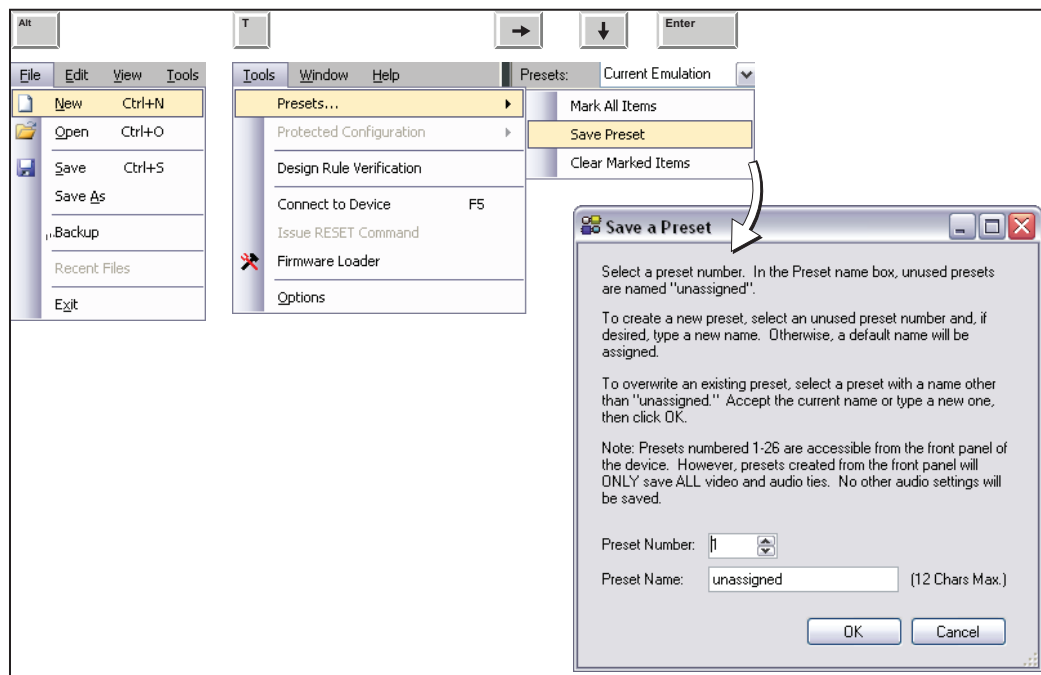

Figure 60. Saving a Preset using Keyboard Navigation
6. **To save a preset**, press <Alt>, then <T>, then right arrow →, then down arrow ↓, then <Enter> (see figure 60).